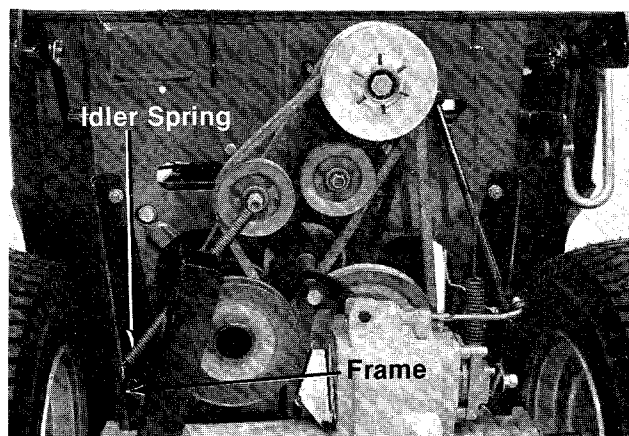

FIGURE 30.
5. Unhook the idler spring from the rider frame. See figure 30.